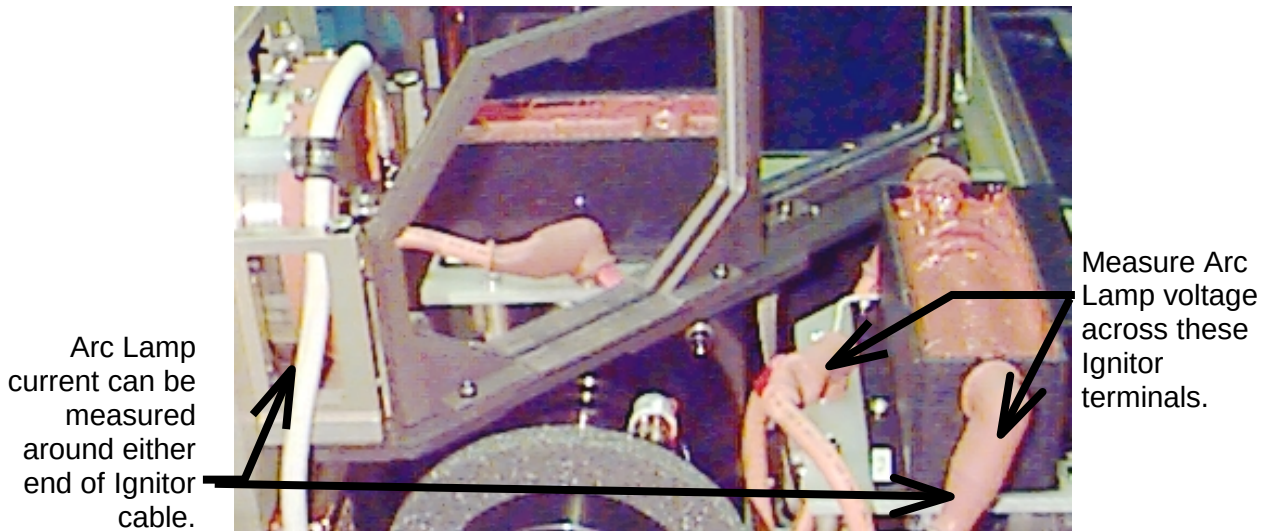
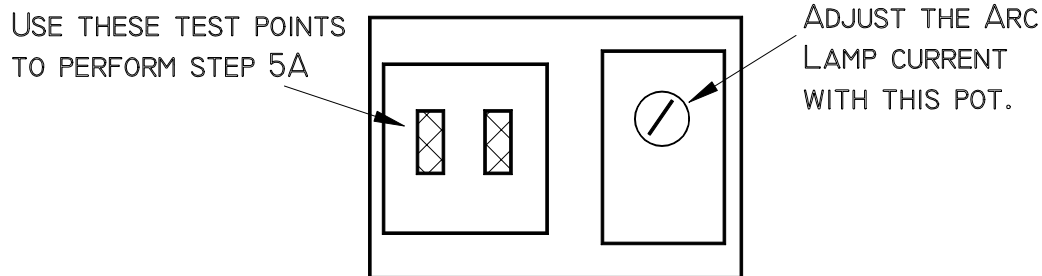

Figure 3-3. Arc Lamp current and voltage measurements.
Figure 3-4. Zoom view of aperture on Arc Lamp Power Supply cover
3. Use a DVM and measure the voltage across the Arc Lamp Ignitor $\pm$ terminals (see Figure 3-3).
4. Use a clamp-on type ammeter such as AMPROBE Model AC/DC 1000, or equivalent, and measure the Arc Lamp current around the Ignitor cable. Place the clamp-on current meter around either end of the white cable that goes from the Ignitor to the Arc Lamp and measure the current going to the lamp (Figure 3-3). If the current exceeds 70 amps, lower the current to 70 amps by adjusting the trimmer pot that is accessible through the small aperture in the Arc Lamp Power Supply cover (see Figure 3-4). **CAUTION!** The current should not exceed 75 amps or damage to the equipment could result.
- A. Using a DVM with the range set to a minimum of 100 millivolts, measure the Arc Lamp current by measuring the voltage across the two terminals, next to the trimmer pot from Step 5 above (Figure 3-4). This test point reads millivolts across a shunt that has been selected so that a 1 millivolt reading on the DVM is equal to 1 amp of Arc Lamp current.
adjust the trimmer pot (Figure 3-4) until the result is 1600 ± 30 watts. If increasing, observe that the voltage from Step 4 may decrease slightly.